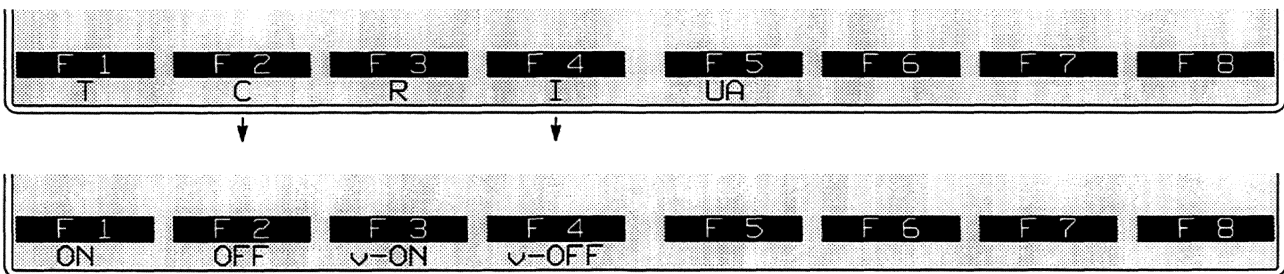

Figure 36-5 C and I leads may be tested for true status or for valid status.
X.21 conditions can monitor the status of C and I control leads. The C and I softkeys are in the conditions rack below LEADS. See Figure 36-5.